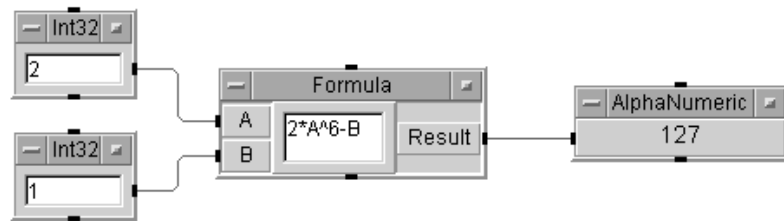

Figure 116 Evaluating an Expression
- 5 Select **Display** ⇒ **AlphaNumeric** and connect it to the output of Formula, and run the program. It should display the result 127, as shown in Figure 116.